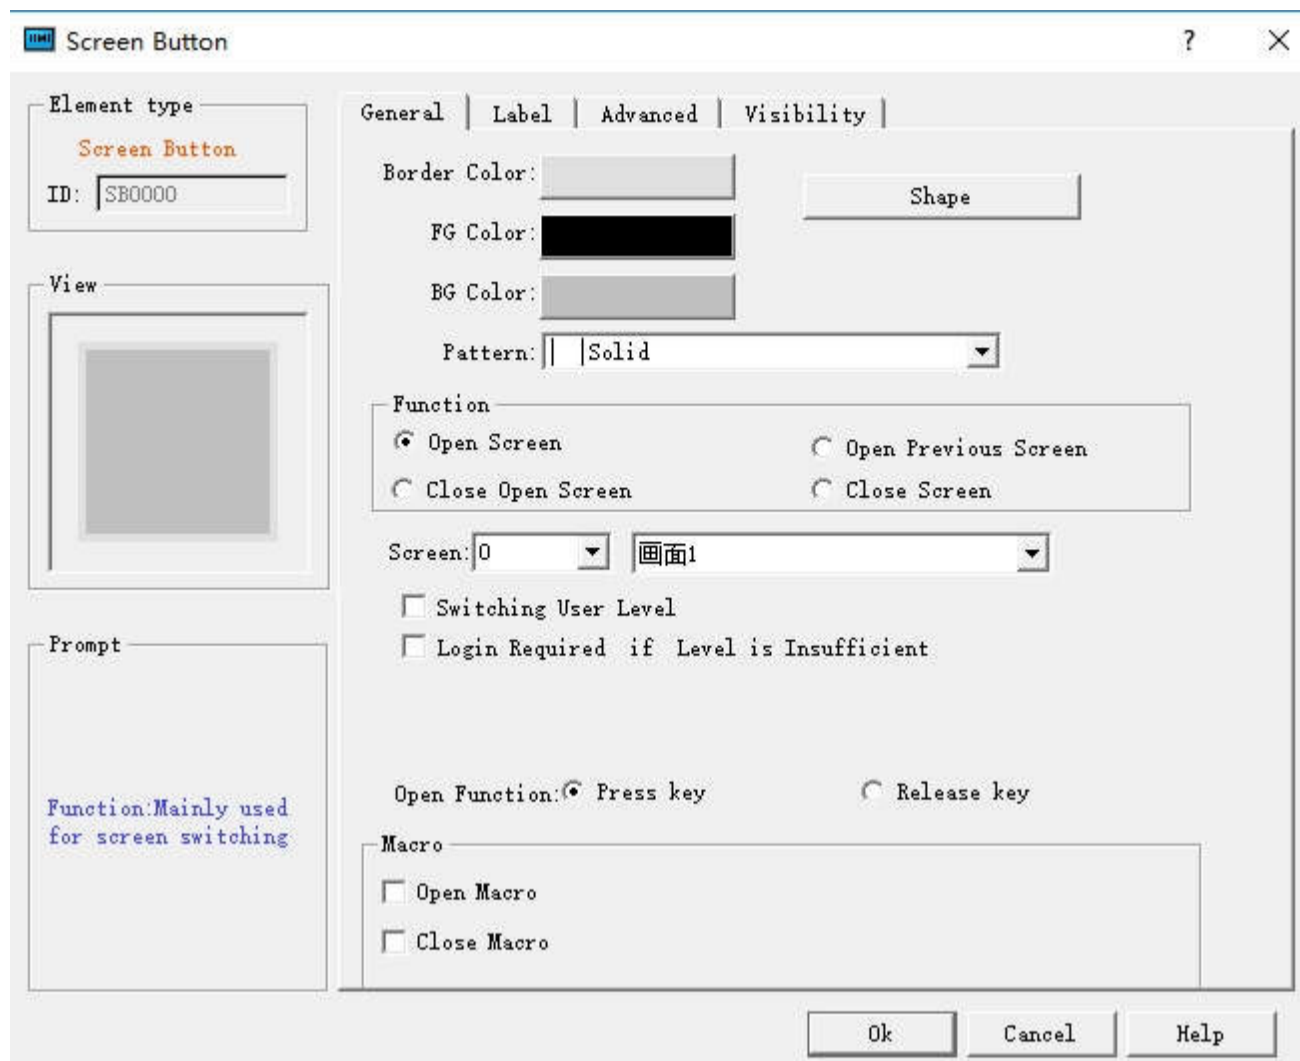

Figure 4-76 Screen Button Dialog Box
- Click the icon button  on the toolbar to bring up the dialog box, as shown in Figure 4-76.